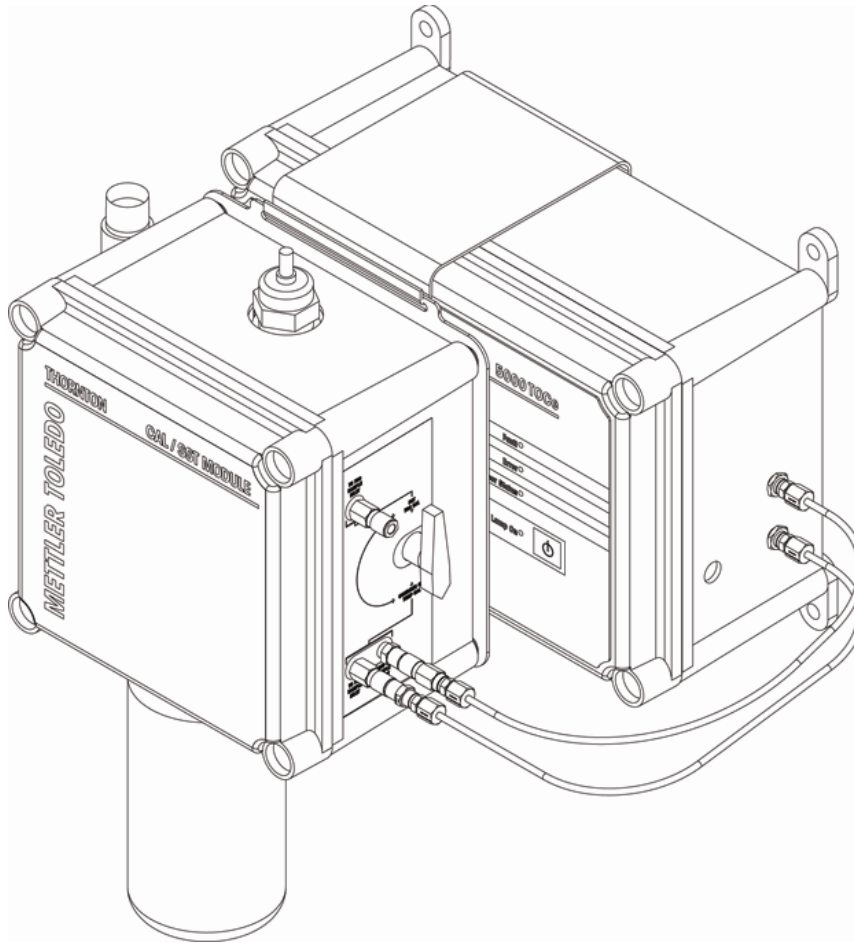

Figure 1. CAL/SST Pump Module Installation and Setup
1. Remove the mounting bracket from the carrying case and place on top of the 5000TOCe Sensor to be tested. See Figure 1.
6. Set selector valve on CAL/SST pump module to "Cond/Res CAL and Temp CAL" position. Figure 1 shows the proper installation of the CAL/SST pump module.